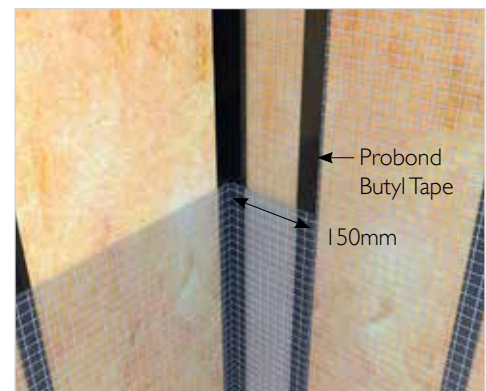

Fig. 3: Procheck Series: Corner joint detail
5. Seal perimeter edges with a double run of Probond Butyl Tape (Fig.3).